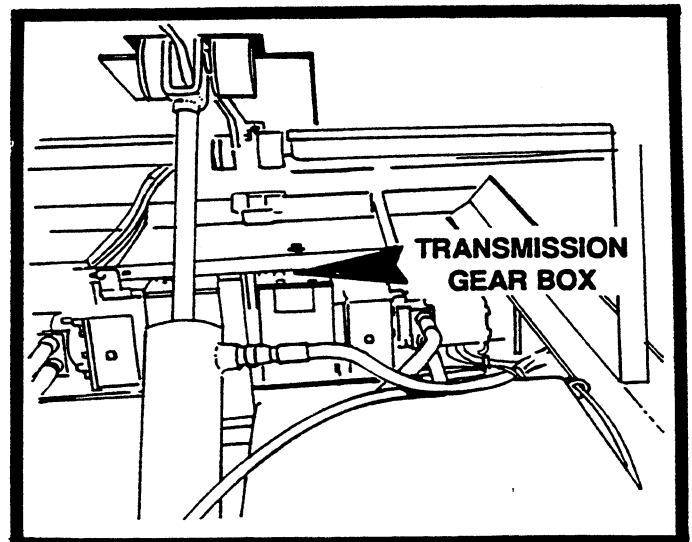

FIGURE 33
1. Check oil level in the two transmission gear boxes as shown in Figure 33. If oil is required use 90 wt. gear oil. There is a dipstick provided to check oil level.